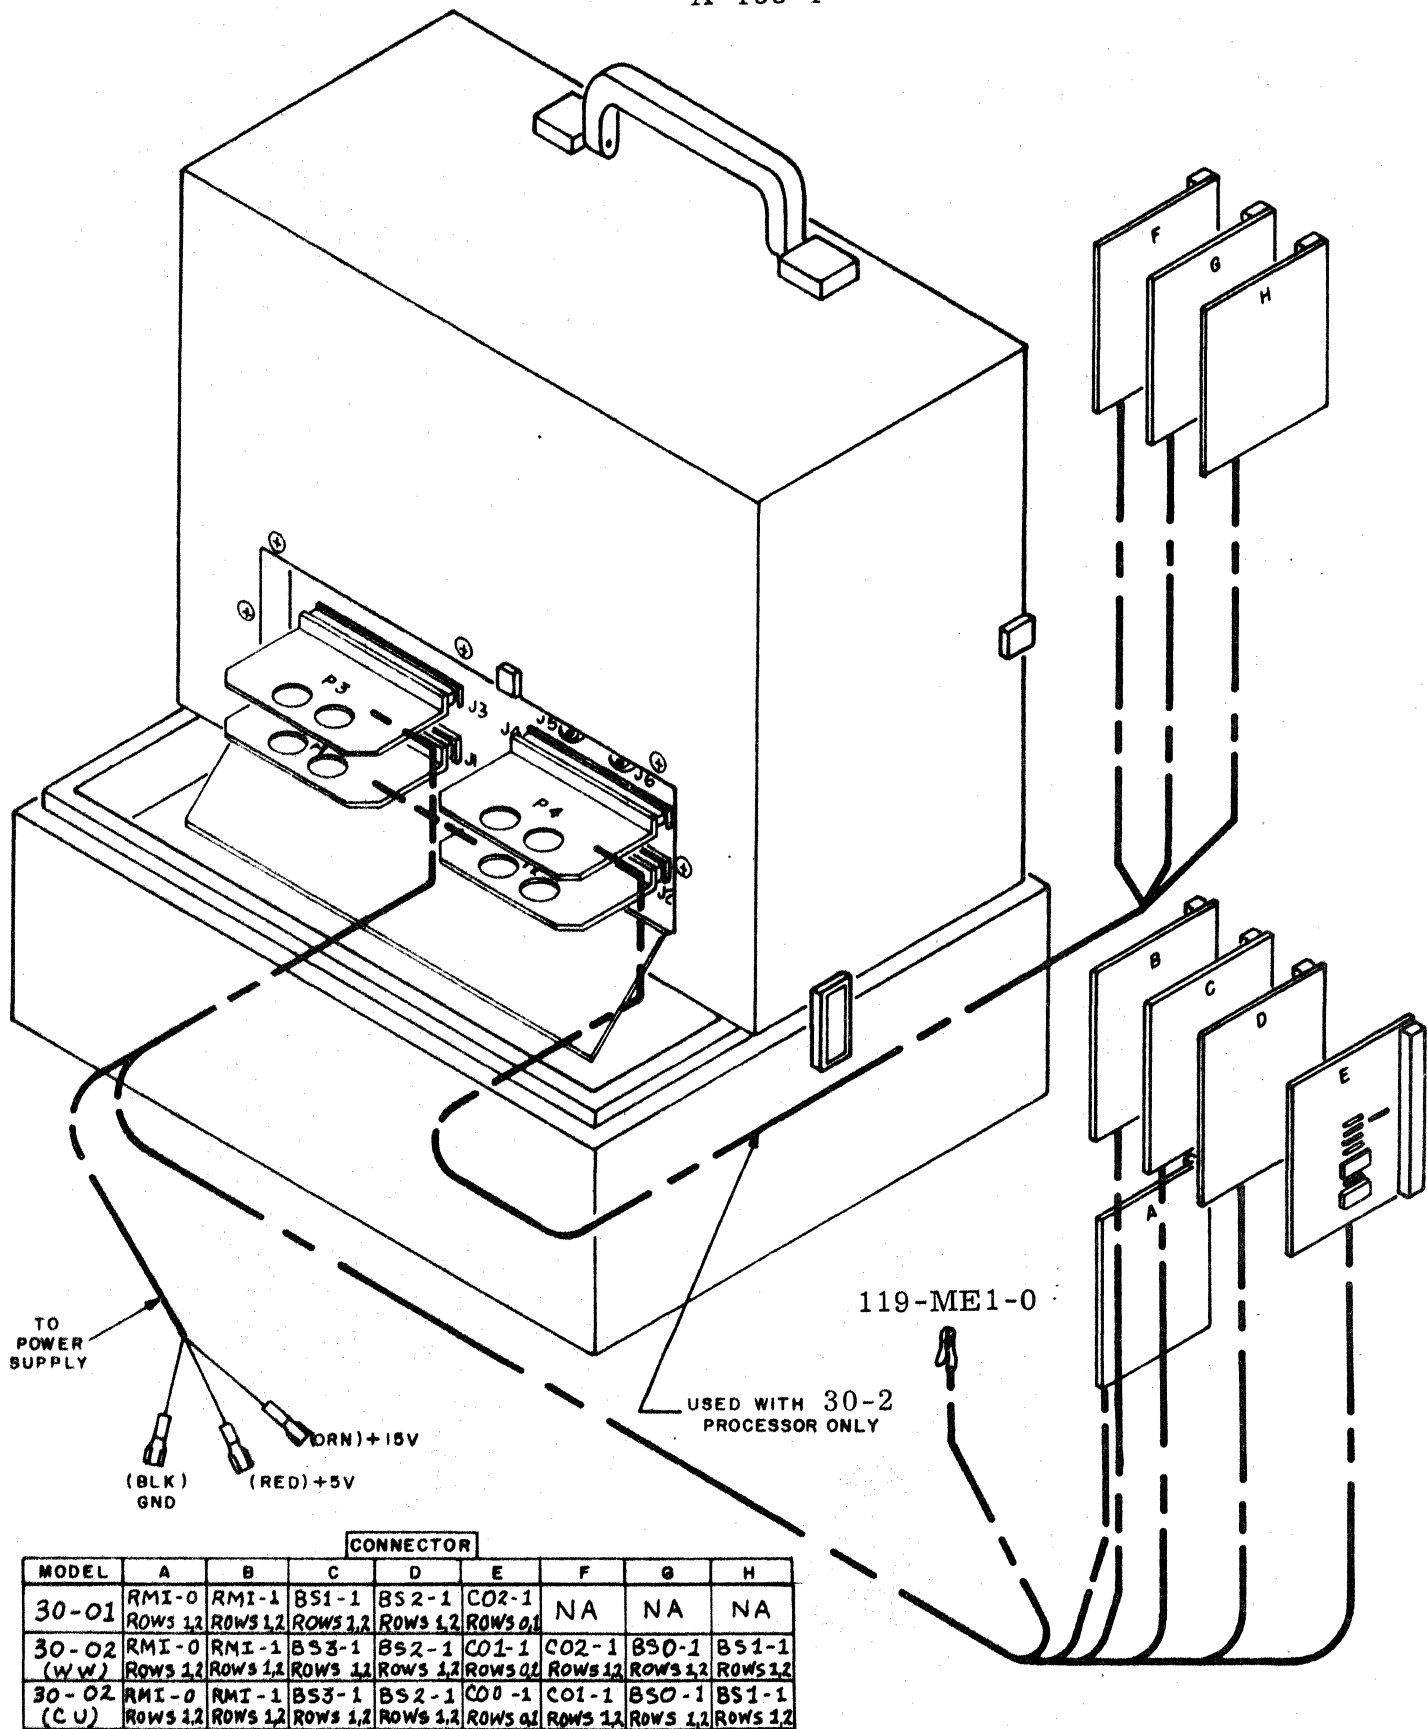

Figure 1. System Test Set Cabling
2. Connect the P1 through P3 cable connectors to the J1 through J3 connectors on the rear of the Test Set. Refer to Figure 1.
3. Connect the other end of the cables to the back panel of the Digital System. Refer to Figure 1.